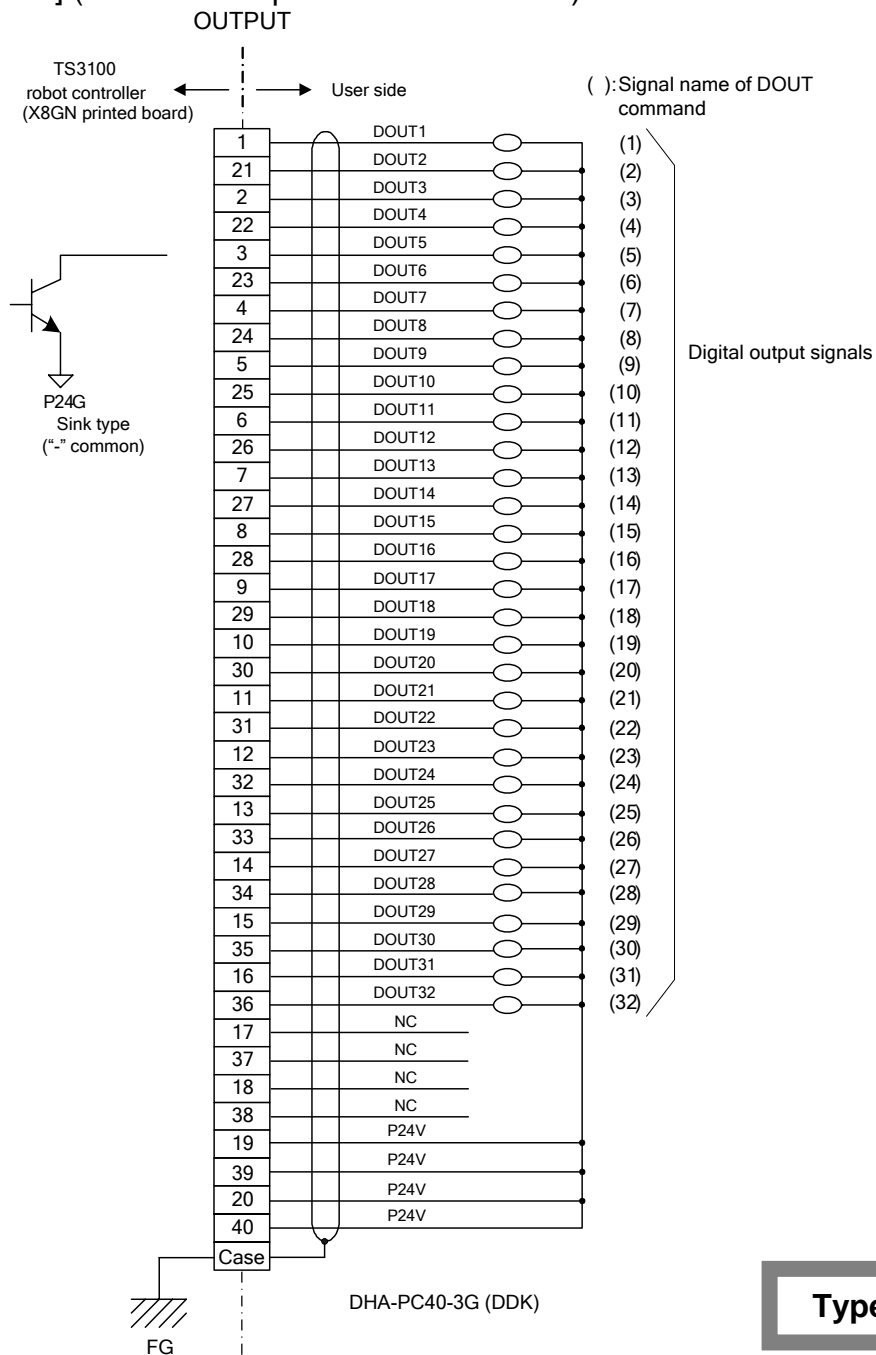
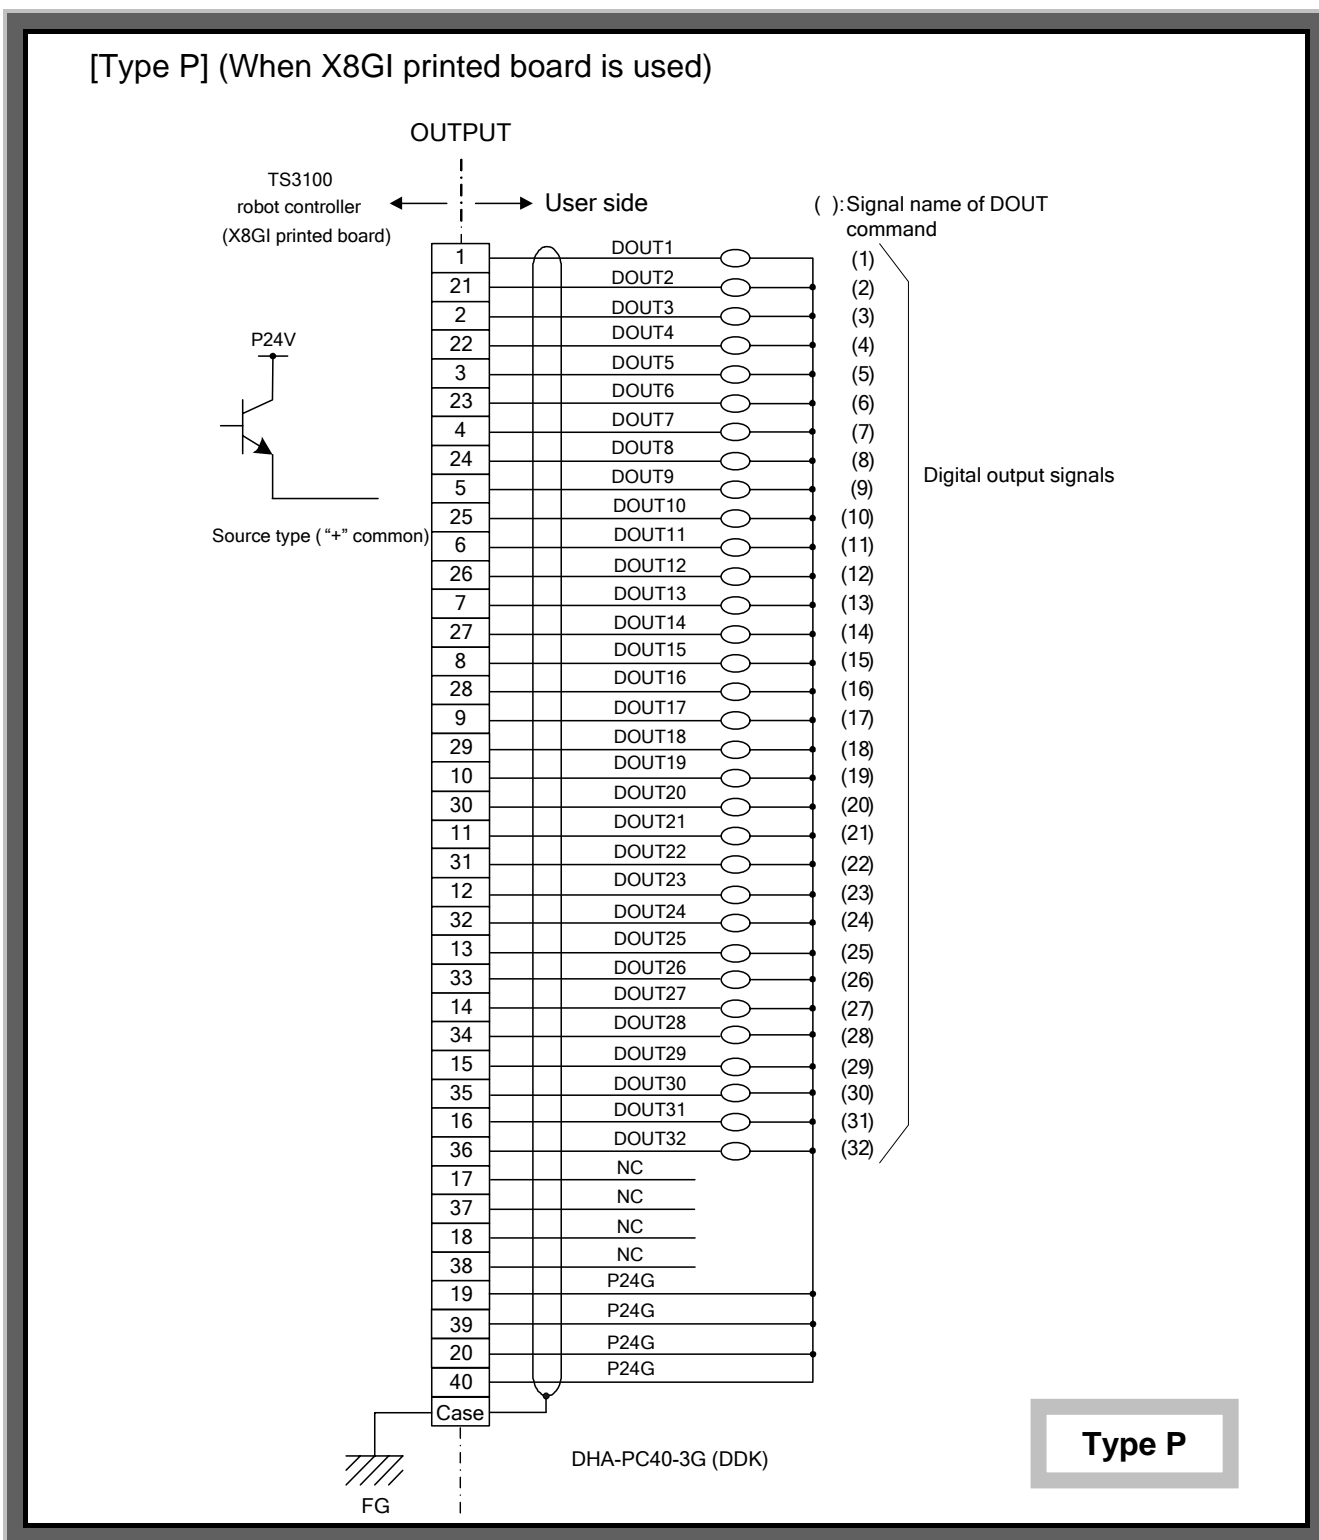

Fig. 4.3 Connection of external output signal cables (Type N)
Fig. 4.4 Connection of external output signal cables (Type P)
As shown in Fig. 4.3 and Fig. 4.4 above, all sixteen (16) digital output signals are transistor outputs.